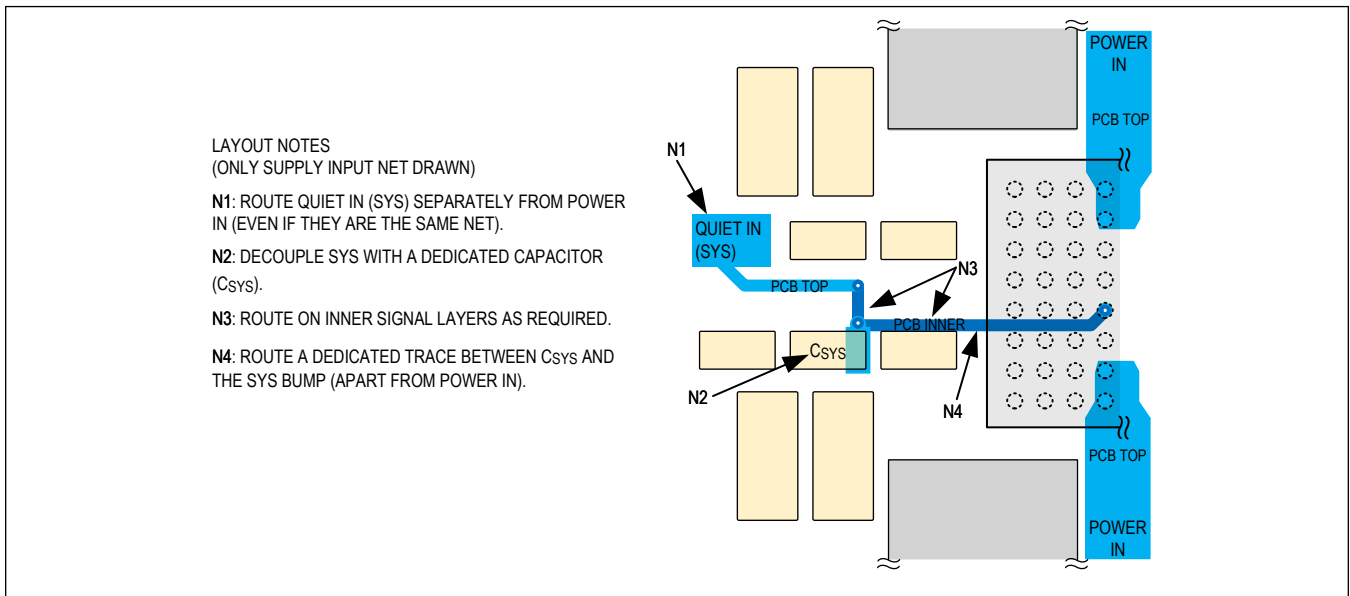

Figure 16. Recommended SYS Connection
10. The IC requires a quiet supply input (SYS) which is often the same net as INx. Carefully bypass SYS to AGND with a dedicated capacitor (C_{SYS}). Route a dedicated trace between C_{SYS} and the SYS bump. Avoid connecting SYS directly to the nearest IN bumps without dedicated bypassing. See Figure 16 for an illustration.